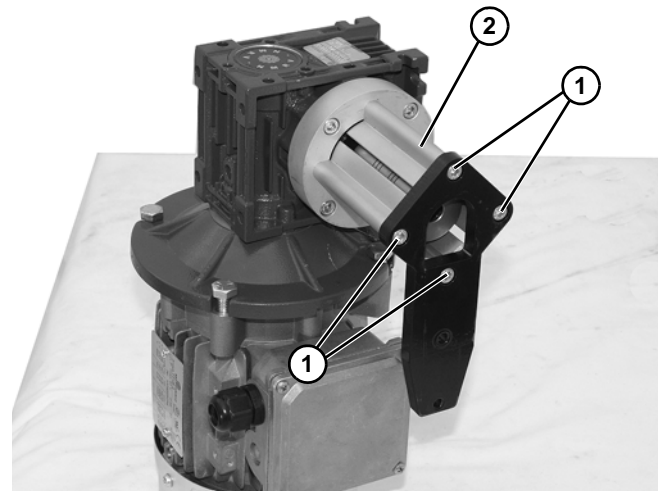

Figure 25
3. Remove four (4) screws (Figure 25, item 1) and remove mounting bracket & tube (Figure 25, item 2).
11. Attach mounting bracket & tube (Figure 25, item 2) to gearmotor. Tighten screws (Figure 25, item 1) to 103 in-lb (12 Nm).
7. Attach mounting bracket & tube (**Figure 25, item 2**) to gearmotor. Tighten screws (**Figure 25, item 1**) to 103 in-lb (12 Nm).